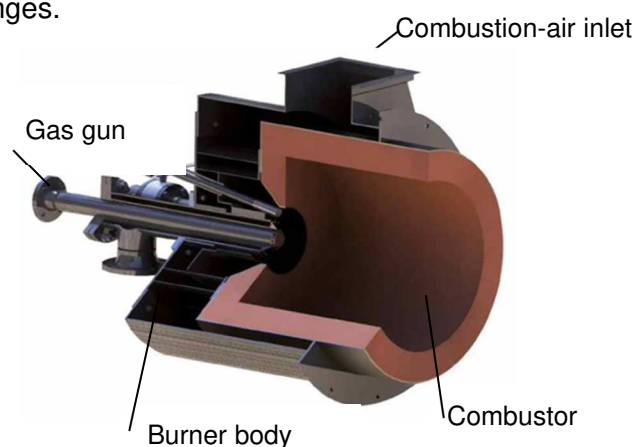

Figure 2.1 - Intensityflame-gas part recognition
The burner is available in twelve (12) different capacity sizes from 1500 kWlhv up to 55000 kWlhv. The mild steel burner body (figure 2.1) houses an alumina air bond refractory or AISI 310 combustor, a mild steel swirling plate and a gas gun. The gas gun comes in 2 options. One for single gas operation and the second for dual gas operation. The gas gun is rotatable in 4 different positions to have the best fit with the arriving gas- and air flanges.